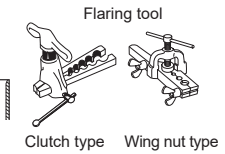

Fig. 4
- 4) Flaring work (Fig. 4, 5). Firmly hold copper pipe in the dimension shown in the table. Select A in. (mm) from the table according to the tool you use.